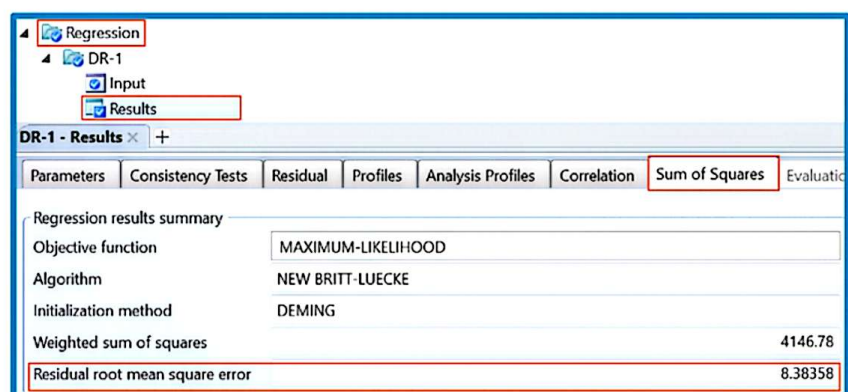

Figure 2.26 Regressing water–acetone VLE data using a 2-parameter “NRTL” model.
5. Using “NRTL” method, carry out the regression step under “**Properties**” environment while in “**Regression**” mode. Use the first entry in Table 2.2 and define parameters, under “**Parameters**” tab, as in Figure 1.38. You should be able to obtain the regressed NRTL parameters with RMMSE less than 10 for such VLE data sets as shown in Figure 2.26.
- Using “NRTL” method, carry out the regression step under “**Properties**” environment while in “**Regression**” mode. Use the first entry in Table 2.2 and define parameters, under “**Parameters**” tab, as in Figure 1.38. You should be able to obtain the regressed NRTL parameters with RMMSE less than 10 for such VLE data sets as shown in Figure 2.26.